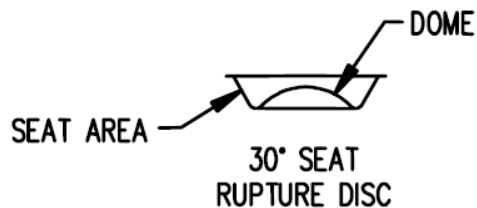

Figure 2 – Check for Damage
3. Inspect the rupture disc for damage. Look for dents, scratches or dings in the seat area or dents in the dome of the rupture disc (See Figure 2).